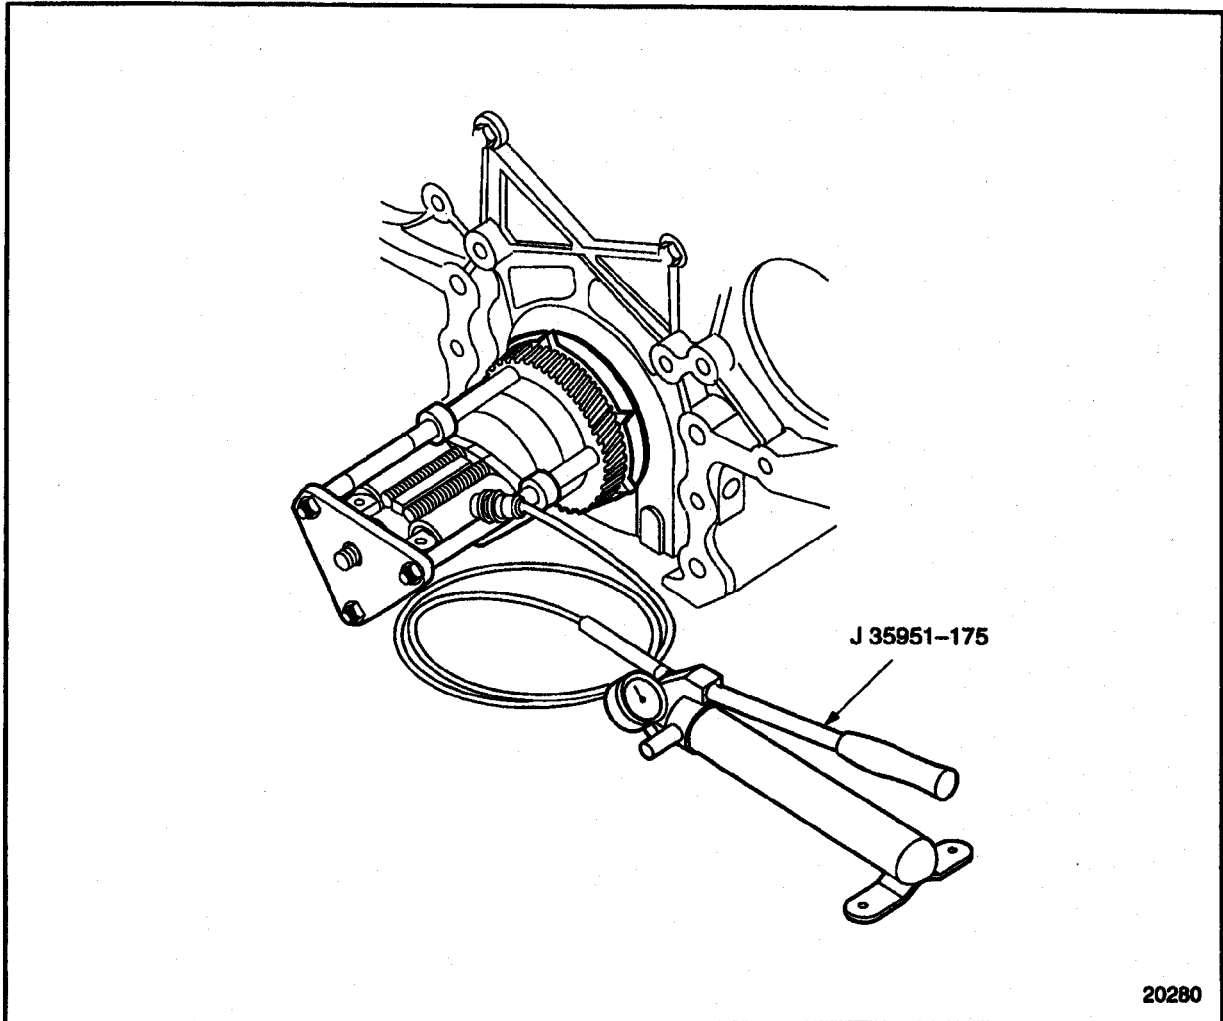

Figure 1-390 Crankshaft Timing Gear Removal
15. Close the valve on J 35951-175. Pump the lever to build pressure and remove the crankshaft timing gear. See Figure 1-390.
- [a] Open the valve on J 35951-175, to relieve the pressure. See Figure 1-390.